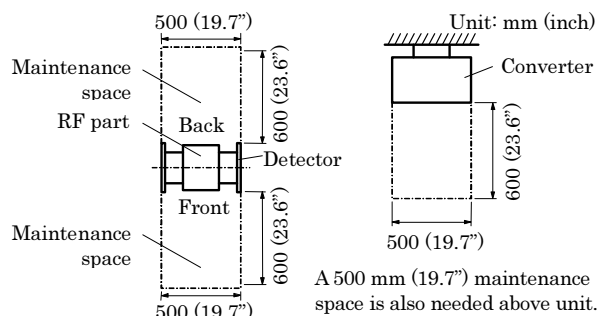

Figure 5. Clearance space
- (1) Choose a place that is free of vibrations and corrosive gasses, and has ample space for maintenance.
- (2) Secure maintenance space around the converter and detector RF section. (Refer to Figure 5)
- (3) In the case of outdoor installation, provide covering against sun and rain.
- (4) It is recommended that the converter be installed about 1.5m (the position of windows) from the floor. The VFD display stays on the front panel of the density meter. Install the converter in a location and orientation easy to see this VFD display.
- (5) Do not install the meter in a place where there is a possibility of leakage of flammable or explosive gas.
- (6) Do not install the meter in any of the following places:
- (7) Install the meter in a place where air bubbles are not generated, inside the pipe is always filled, and sedimentation and accumulation of solid matters do not occur.
- (8) Install the meter in a place where density distribution is uniform. If the distribution inside the pipe is uneven, manual analysis data and the indicated value of the density meter may not show the same value.
- (9) Ensure that the flow rate of the fluid to be measured is 0.6m/s or more.